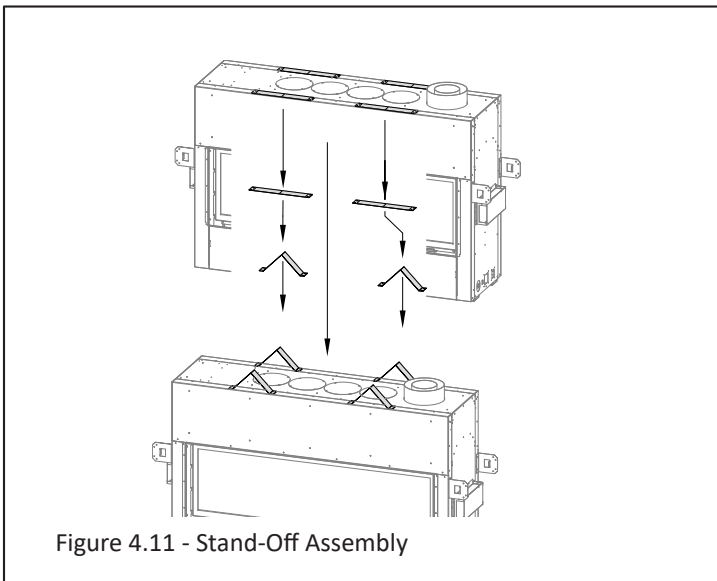

Figure 4.11 - Stand-Off Assembly
3. Assemble and install fireplace stand-off assembly. Figure 4.11.